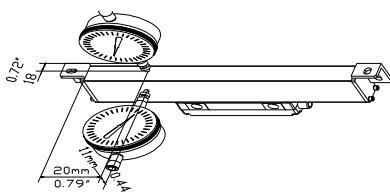

figure 4.5
3. When you calibrate the parallelity of the body of the linear scale with level meter or other similar devices, the angle of the measuring head must be confined within $\pm 30^\circ$ (based on the measuring head of the level meter being parallel with the level meter itself). As for the angle, the smaller, the better. If you use the decimal meter(Figure4.5, 4.6, 4.8, 4.9), you must make the bar of the measuring head perpendicular with the surface to be measured, only in this case can ensure the actual measuring precision.
9. Based on the center of the linear scale, you must take the point of symmetry of the two sides as the criteria point when adjusting the height and level of the linear scale. As to any linear scale, whenever you perform the horizontal adjustment or vertical adjustment, for the body of the linear scale itself, the range of the adjustment can't individually exceed 20mm from the end of the meter to the body of the scale (Figure4.5). As for the Read Head, perform the adjustment within the two square standard sides (Figure 4.6)